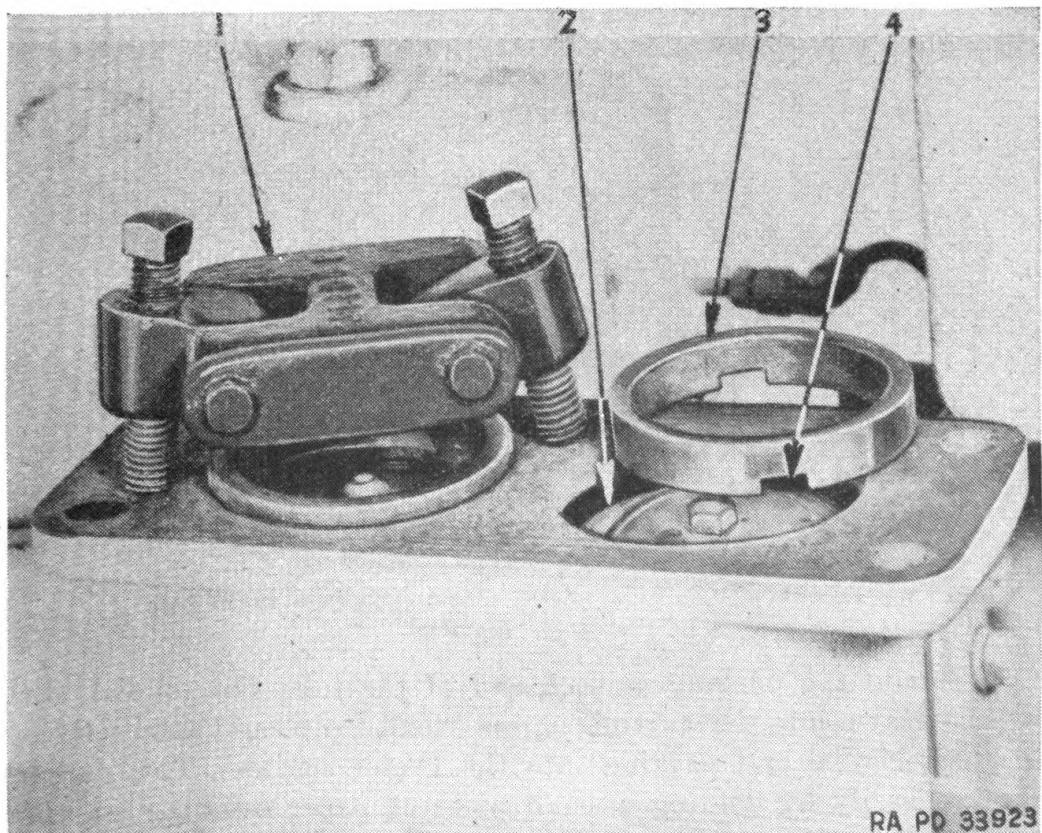

FIGURE 14.—Use of regulator retainer puller.
b. The construction of the regulators is such that should the bellows become punctured, the regulator will open fully. Figure 14 shows the use of a CAT3B7184 regulator retainer puller (1) to remove the retainer (3). The hooks of the puller fit in the slots (4) of the retainer. Lift out regulator (2).